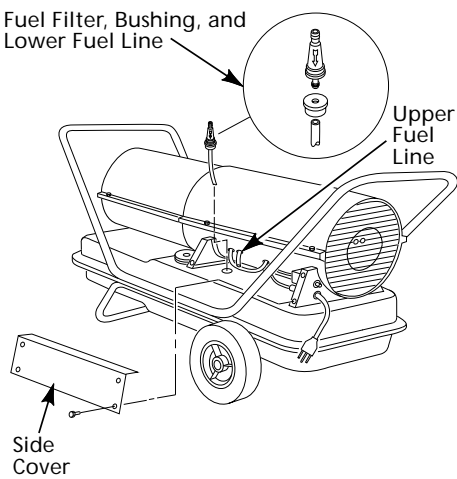

Figure 18 - Fuel Filter Removal, Models 3E218D and 3E219C
4. Carefully pry bushing, fuel filter, and lower fuel line (Models 3E218D and 3E219C only) out of fuel tank (see Figure 18, page 8).